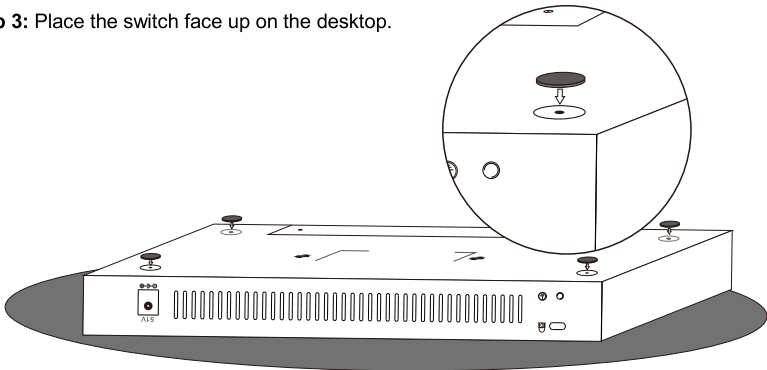

Figure 2-1 Mount the Switch on a Desktop
Step 2: Attach four anti-slip footpads to the corresponding circular grooves on the bottom of the switch as shown in **Figure 2-1**;